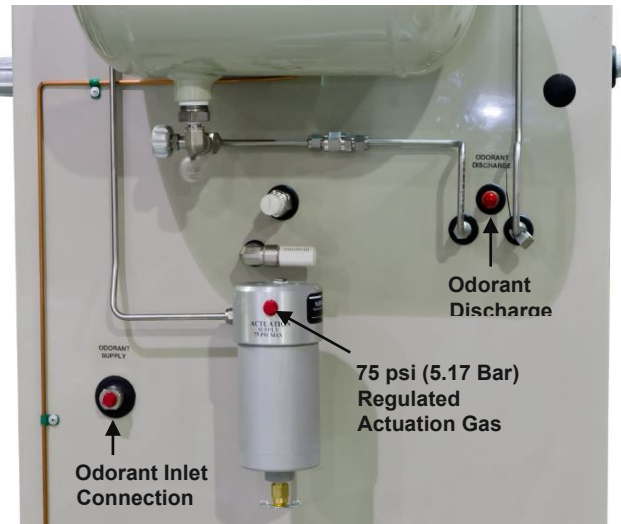

Figure 14 Rear Cabinet Connections
8. Connect the odorant supply source to the odorant inlet manifold with the recommended 1/4" stainless steel tubing, *figure 14*. A tank isolation valve should be incorporated between the storage tank and this connection, *figure 14*.
9. Connect the regulated actuation gas source, of 75 psi (5.17 Bar) supplied by the NJEX system owner, to the NJEX gas filter inlet fitting using a dielectric union, *figure 14*.